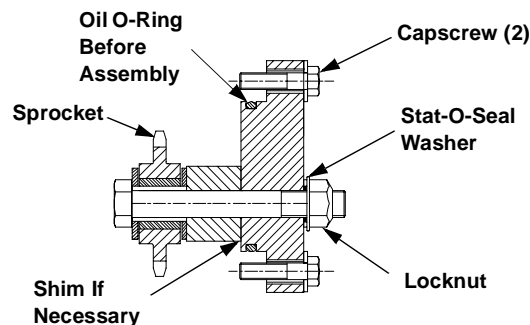

FIGURE 5-8: ECCENTRIC VERNIER - CHAIN IDLER SPROCKET (SELF-ALIGNING SPROCKET) - TYPICAL
1. A typical chain idler sprocket is shown in Figure 5-8: on Page 5-15.
7. If not in alignment within 1/32 inch (1 mm), shim as necessary, see Figure 5-8:.